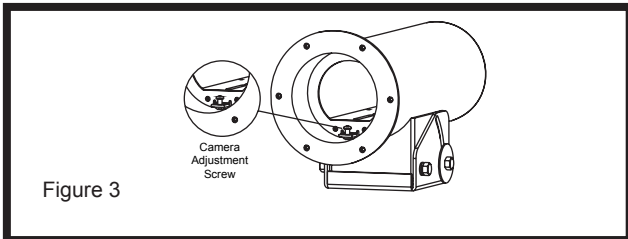

Figure 3
5. Loosen the camera adjustment screw (Figure 3).